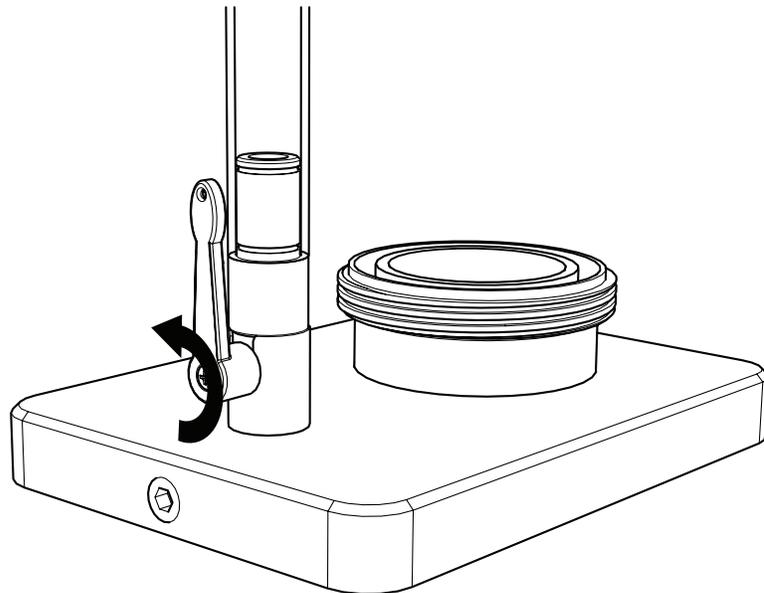

Figure 10 Open/Close the fill cock
1. Open fill cock (Figure 10) and fill burette.